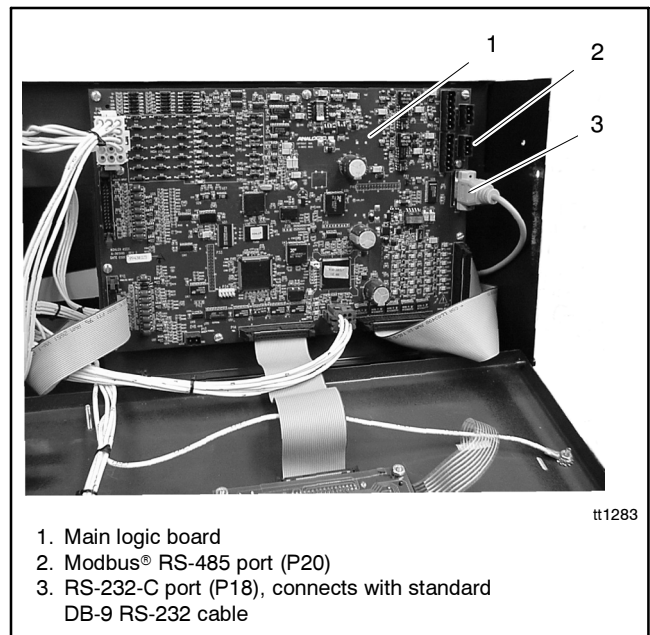
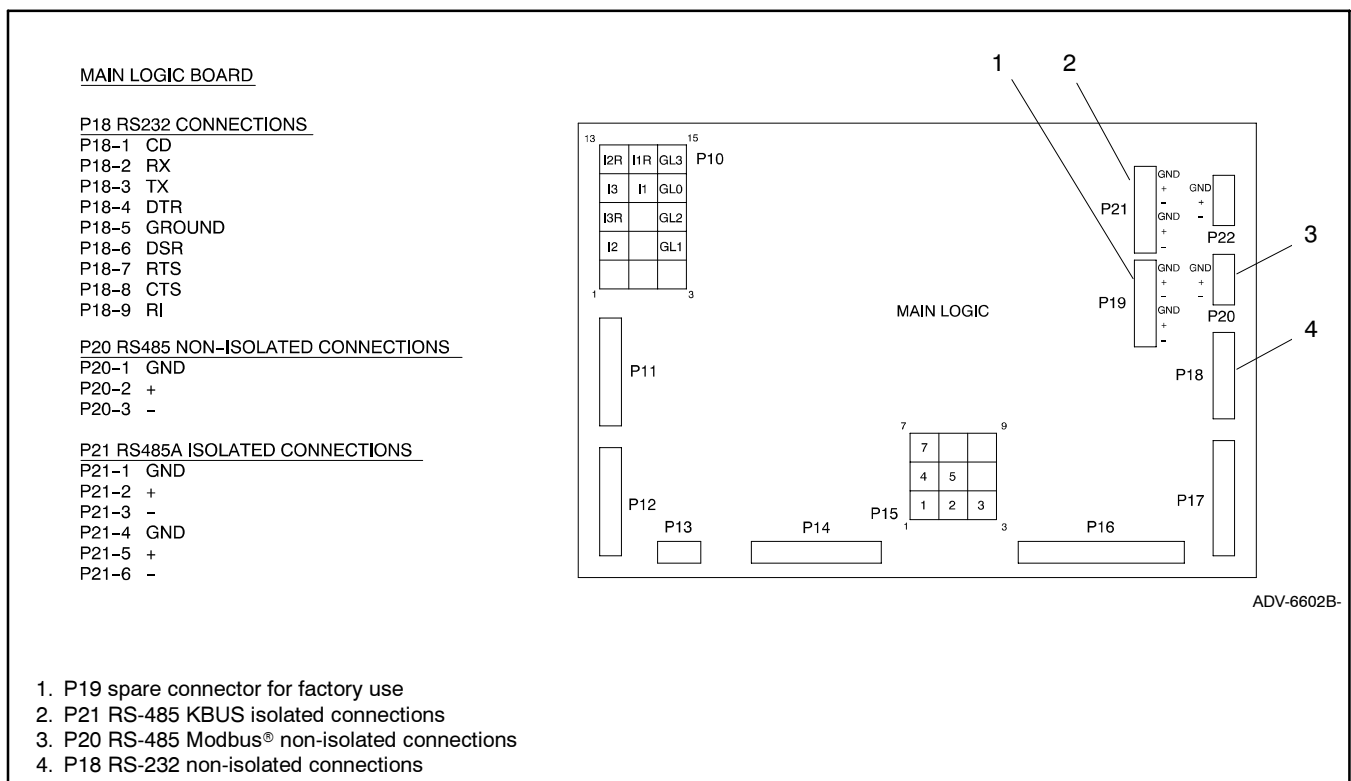

Figure 2-2 Communication Port Locations for the Digital 550 Generator Set Controller
Figure 2-3 Communication Connections Pin Identification
5. Open the enclosure and locate the connection ports as shown in Figure 2-2 and Figure 2-3.